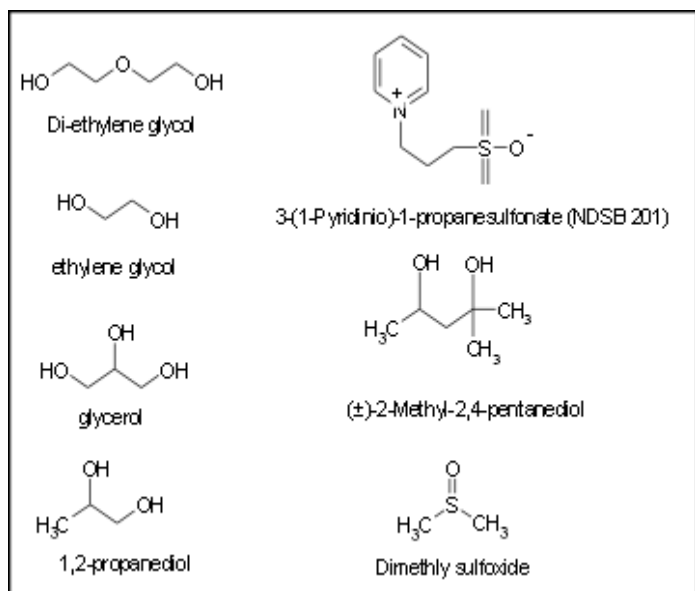

Figure 2. Core Components used in CryoProtX™
- **Core Components (Figure 2):** These components have been chosen because of their suitability towards keeping crystals stable for long periods of time. These are provided for use during fine-tuning a cryoprotectant during customization steps.